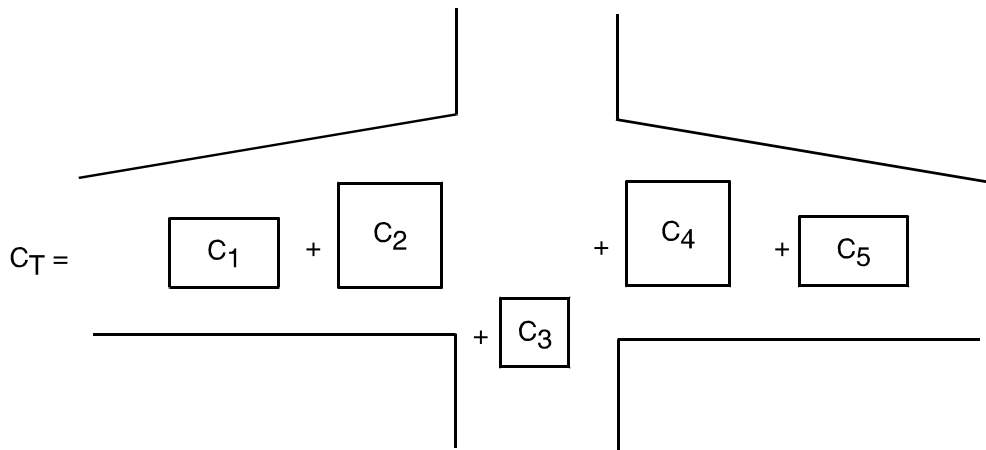

Figure 23
43. Also, several aircraft fuel tanks can be monitored to give a total fuel readout, by connecting all the capacitor units in parallel as in figure 23 below.